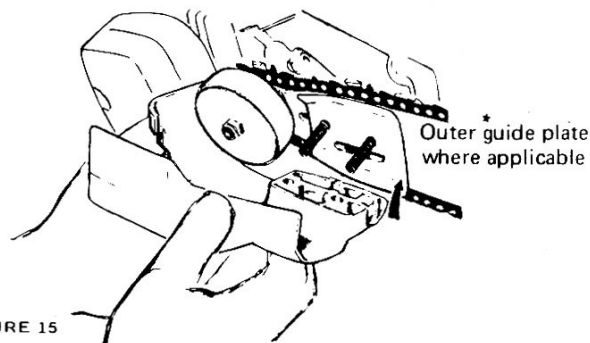

FIGURE 15
3. Replace the *outer guide plate, clutch cover and clutch cover nuts. Do not tighten. (See Figure 15).